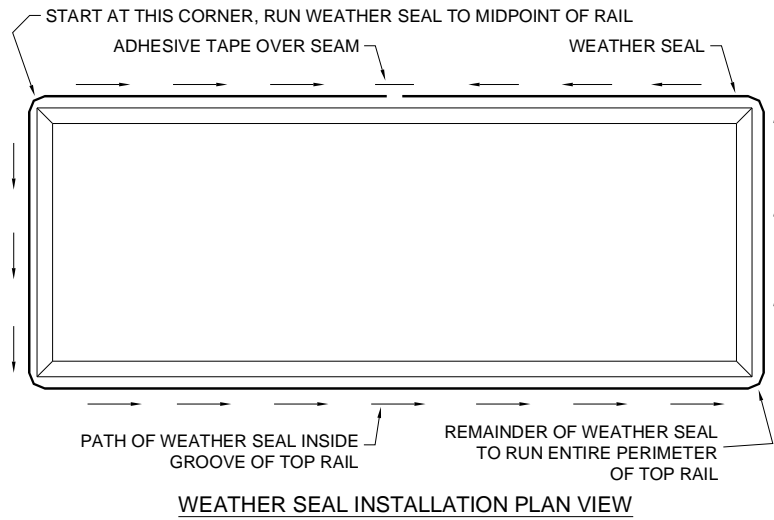

Figure 6.2
- C. Pull the weather seal to the midpoint of this top rail as shown in figure 6.2.
- E. Repeat this process at the other corners. Gently pull the weather seal around the perimeter until it meets the other end (see figure 6.2). Make sure the weather seal is tight around the corners.